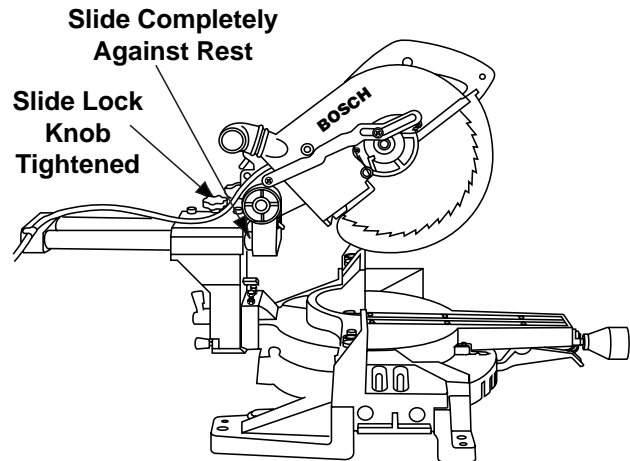

Figure 27. Chop Cut
1. Slide the head assembly to the rear as far as it will go (Figure 27).
2. Tighten the slide rail lock knob (Figure 27).